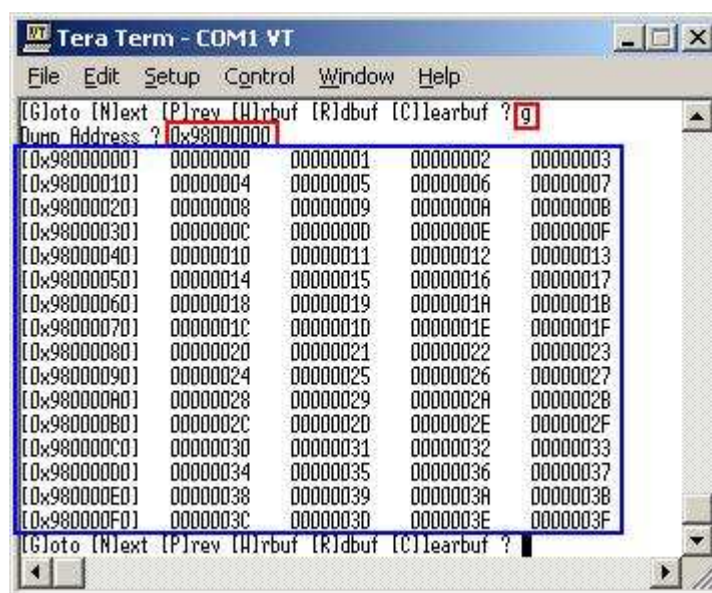

Figure 15 Goto submenu example
- 'G': this submenu is used to select the address to read, as shown in Figure 15. The address can be input to be hex value by adding prefix "0x", so normally input will be received in decimal value.